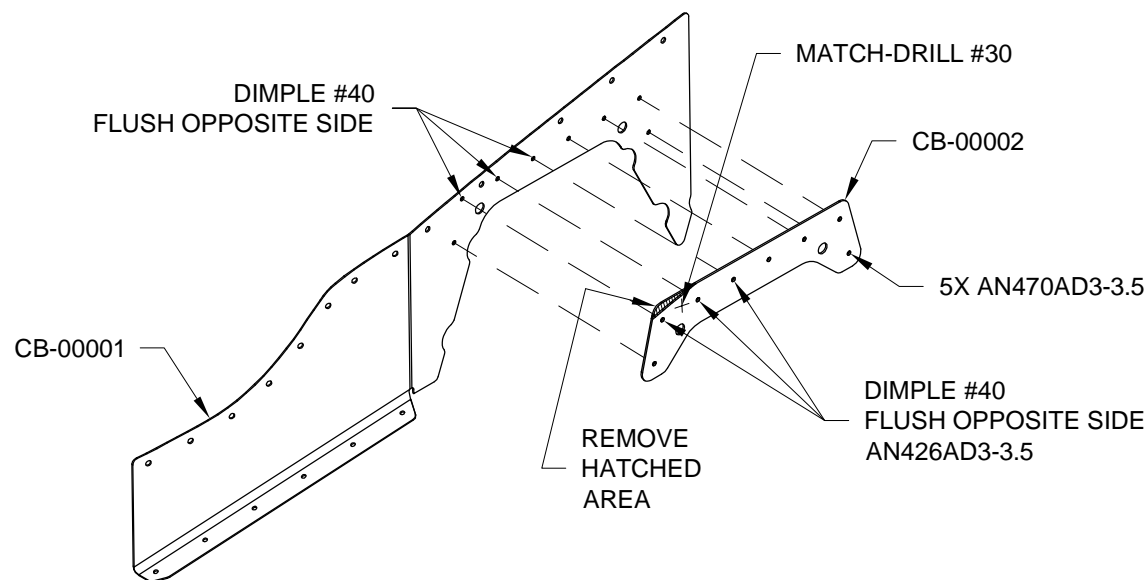

FIGURE 2: CYLINDER 2 BAFFLE
Step 7: Match-Drill #30 the hole in the CB-00001 Cylinder 2 Baffle into its forward doubler as shown in Figure 2.